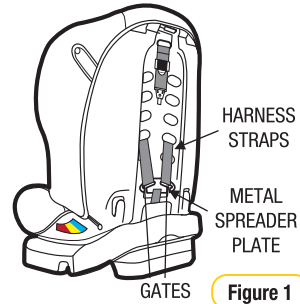

Figure 1
Step 2: Remove each shoulder harness through the gates in the spreader plate (see Figure 1 & 4).
Step 2: Make sure Top Tether strap is as in illustration (Figures 1 and 2) i.e. positioned around restraint back.